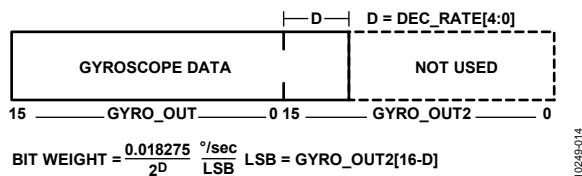
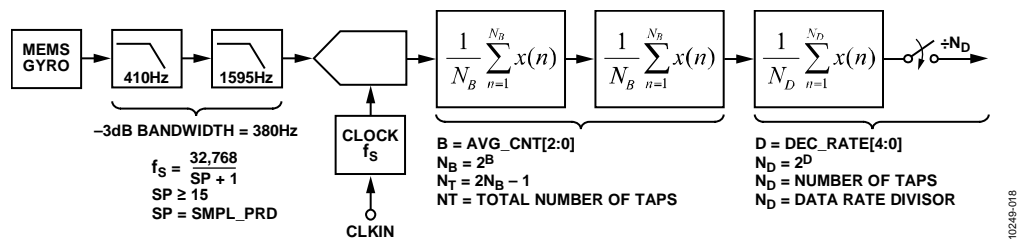

Figure 14. Gyroscope Output Format, DEC_RATE[4:0] > 0
Figure 18. Sampling and Frequency Response Block Diagram
The GYRO_OUT2 register (see Table 11) captures the bit growth associated with the decimation and FIR filters that are shown in Figure 18 using a MSB justified format. The bit growth starts with the MSB (GYRO_OUT2[15]), is equal to the decimation rate setting in DEC_RATE[4:0] (see Table 18), and grows in the LSB direction as the decimation rate increases. See Figure 14 for more details.
Figure 18 provides a block diagram for the sampling and digital filter stages inside the ADIS16136. Table 15 provides a summary of registers for sample rate and filter control.
[15:0]	Clock setting bits; sets f_s in Figure 18
The AVG_CNT register (see Table 17) provides user controls for the low-pass filter. This filter contains two cascaded averaging filters that provide a Bartlett window FIR filter response (see Figure 18). For example, set AVG_CNT[7:0] = 0x04 (DIN = 0xA004) to set each stage to 16 taps. When used with the default sample rate of 1024 SPS, this establishes a -3 dB bandwidth of approximately 24 Hz for this filter.
[2:0]	Binary; B variable in Figure 18; maximum = 110 (6)
The DEC_RATE register (see Table 18) provides user control for the final filter stage (see Figure 18), which averages and decimates the output data. For systems that value lower sample rates, this filter stage provides an opportunity to lower the sample rate while maintaining optimal bias stability performance. The –3 dB bandwidth of this filter stage is approximately one half the output data rate. For example, set DEC_RATE[7:0] = 0x04 (DIN = 0xA204) to reduce the sample rate by a factor of 16.
[4:0]	Binary; D variable in Figure 18; maximum = 10000 (16)